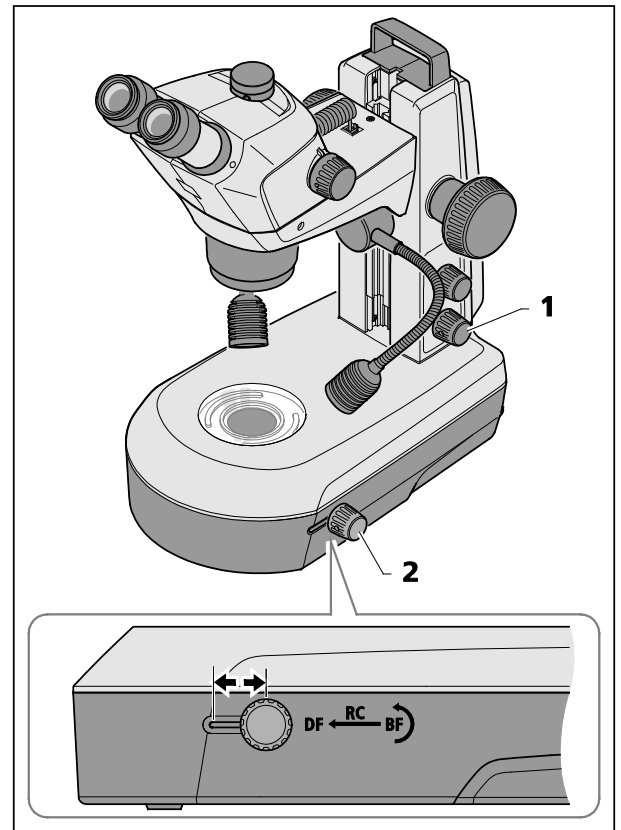

Fig. 26 Transmitted-light unit in stand K LAB
- Switch transmitted-light illumination ON by pressing the lower knob (Fig. 26/1).
- Adjust the bright field (BF) by pushing the sliding knob (Fig. 26/2) into its rear position (BF).
- Turn the sliding knob (Fig. 26/2) to swing the clear or diffuse mirror into position or to adjust the inclination angle.
- Change over to dark field illumination (DF) by pushing the sliding knob (Fig. 26/2) into its front position.
- ☞ By pushing the sliding knob (Fig. 26/2) into a central position and by tilting the mirror, oblique light effects (RC) are created which are very well suited to display non-coloured specimens.